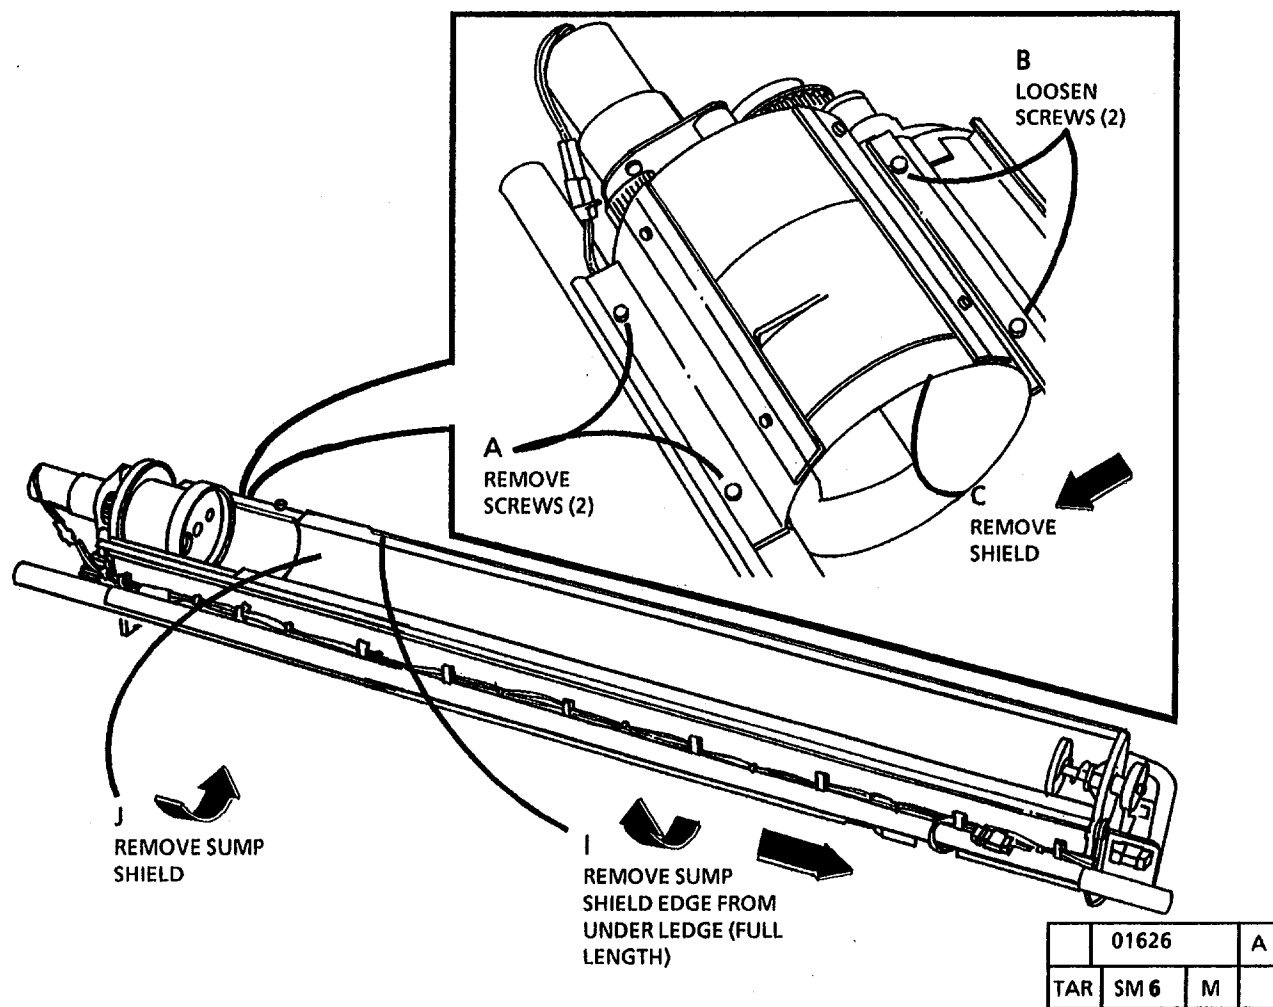

Figure 8. Remove the Sump Shield from Under the Toner Cartridge
6. (Figure 8): Remove the Sump Shield from under the toner cartridge.